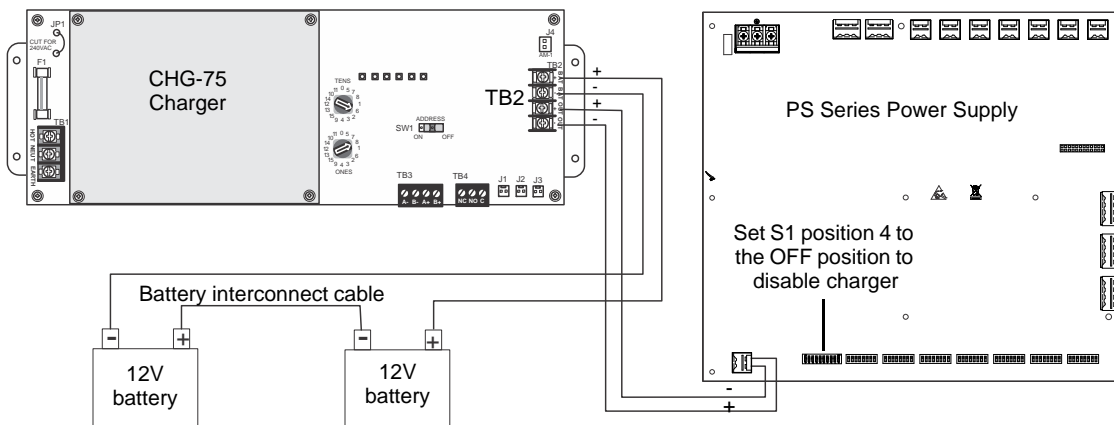

Figure 2.10 Connecting the Power Supply to a CHG-75 Charger
- Connect the battery cables between TB15 (+ and -) on the PSE and the CHG-75 charger output circuit (TB2: Out+ and Out-) as shown in Figure 2.10. Be certain to observe polarity.